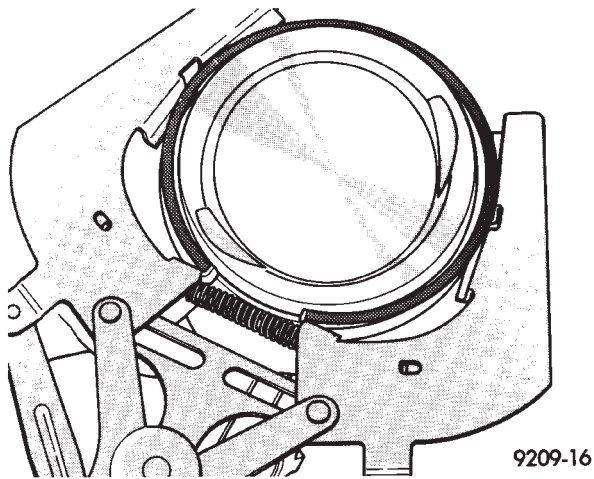
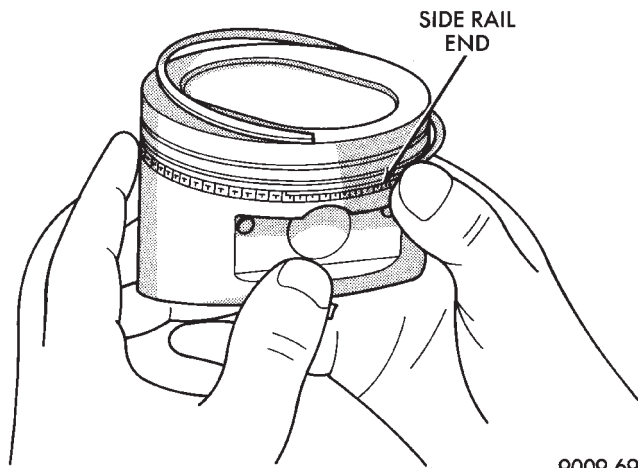

Fig. 8 Piston Rings—Removing and Installing
Fig. 12 Installing Side Rail
- (1) ID mark on face of upper and intermediate piston rings must point toward piston crown.
- (2) Using a suitable ring expander, remove upper and intermediate piston rings (Fig. 8).
- (3) Remove the upper oil ring side rail, lower oil ring side rail and then oil ring expander from piston.
- (4) Clean ring grooves of any carbon deposits.
- (2) Install the side rail by placing one end between the piston ring groove and the expander. Hold end firmly and press down the portion to be installed until side rail is in position. **Do not use a piston ring expander.** (Fig. 12).
- (3) Install upper side rail first and then the lower side rail.
- (4) Install No. 2 piston ring and then No. 1 piston ring (Fig. 8).